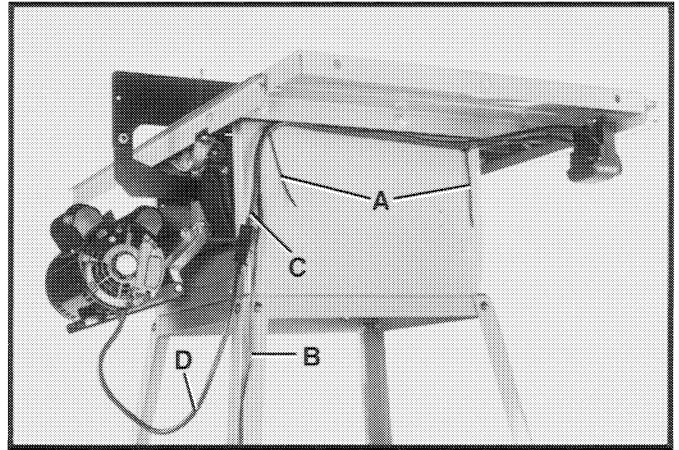

Fig. 37
2. Clamp power cord (B) Fig. 37, and switch to motor cord (C) into both cable ties (A) as shown.
3. Connect switch to motor cord (C) Fig. 37, to motor cord (D) as shown.